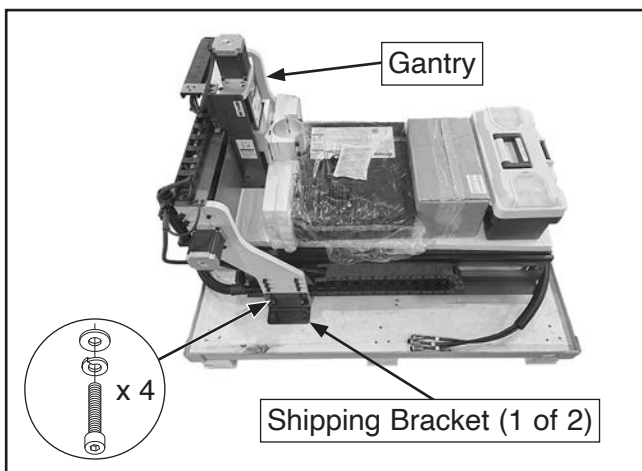

Figure 10. Location of shipping bracket and fasteners.
3. Remove fasteners securing shipping brackets to gantry (see **Figure 10**).